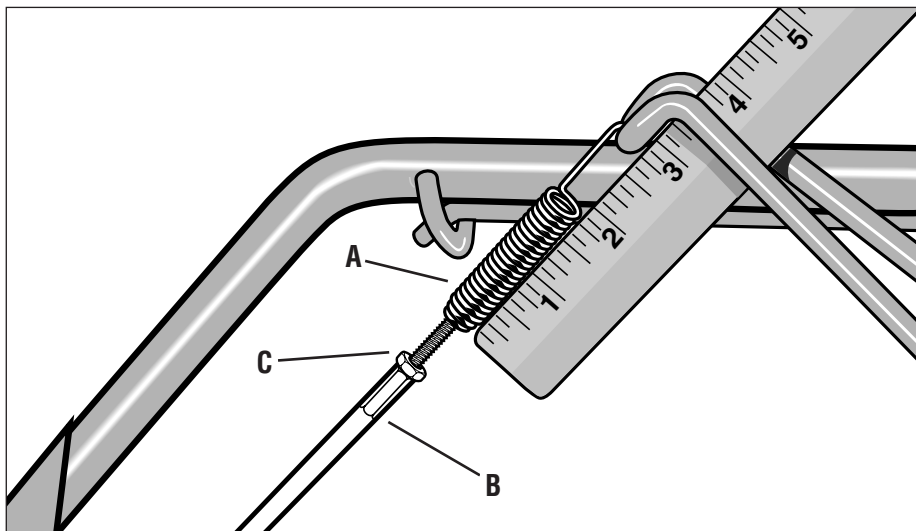

Figure 5-4: Lift bail and check length of Clutch Bail Spring to check for correct belt tension (1-7/8").
2. Loosen nut “C” (Figure 5-4) several turns so it is about halfway up the threaded adjustment screw.
3. Lift the Forward Clutch Bail up and hold it to the bottom of the handlebars. Measure the length of the clutch bail spring (A, Figure 5-4) with a ruler. If the belt tension is correct, the length of the coiled portion of the spring should be approximately 1-7/8". Nut “C” should then be snugged down against the top of the adjuster (B).
5. To adjust the length of the spring, release the Forward Clutch Bail. Thread the hex nut (C, Fig. 5-4) halfway up the adjustment screw. Turn the screw inside the spring (A, Figure 5-4) counterclockwise (as viewed from the operator’s position) while holding the adjuster (B) steady to increase the length of the spring, or turn clockwise (as viewed from the operator’s position) to decrease the length of the spring.